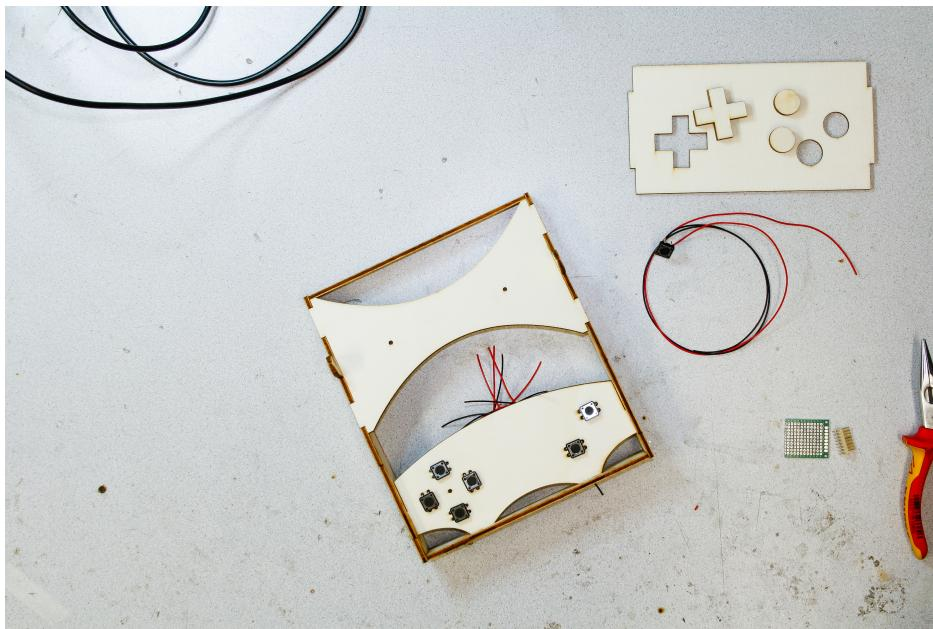
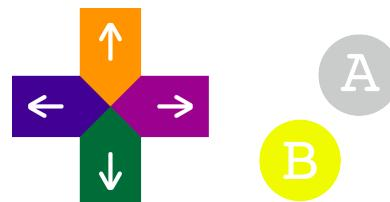

Figure 3.6: Insert the buttons in the footer
Figure 3.7: The layout of the buttons
Step 2 Now push six of the buttons with wires connected through the designated holes in the footer. See figure 3.6. Make sure to put the correct wire through the correct opposite hole in such a way that the two unsoldered legs of the buttons fall into the other two holes. Set one button aside for the steps in Section 3.2.1. The layout of the buttons is shown in Figure 3.7, however, note that you can flip this layout.